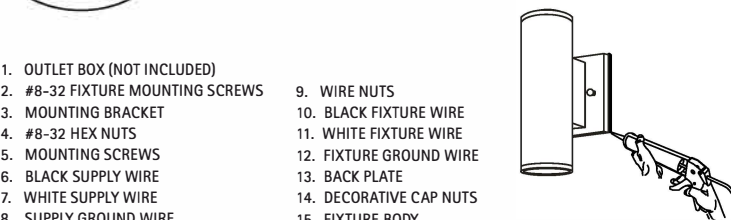

Figure 2
12 For outdoor installation: after mounting the fixture, caulk the upper 2/3 of the surface between the BACK PLATE(13) and the mounting surface. [Fig. 2] Note: Leave the bottom 1/3 uncaulked for drainage. Use caulking material rated for exterior use.